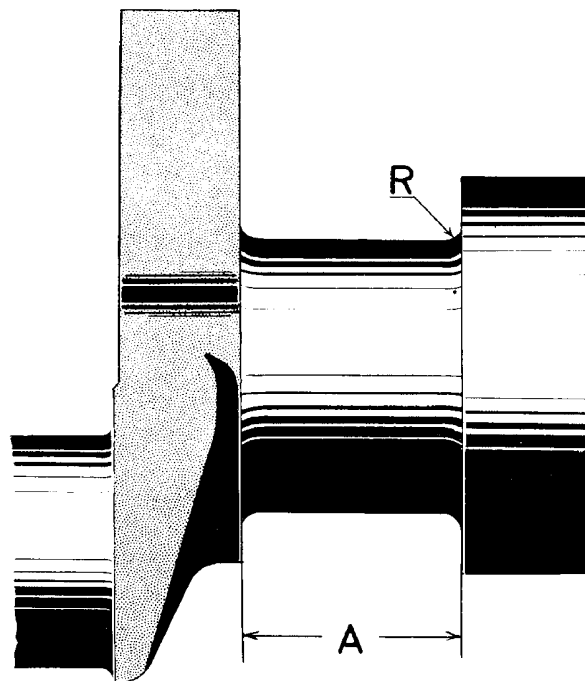

Fig. C6. Bearing journal
The fillets at the ends of the journals should have a radius of 2.0–2.5 mm (0.080–0.100") for all the journals, see Fig. C6. The width measurement (A) for the pilot bearing depends on the size of the journal and should be ground in order to obtain the correct measurement. See the "Specifications".